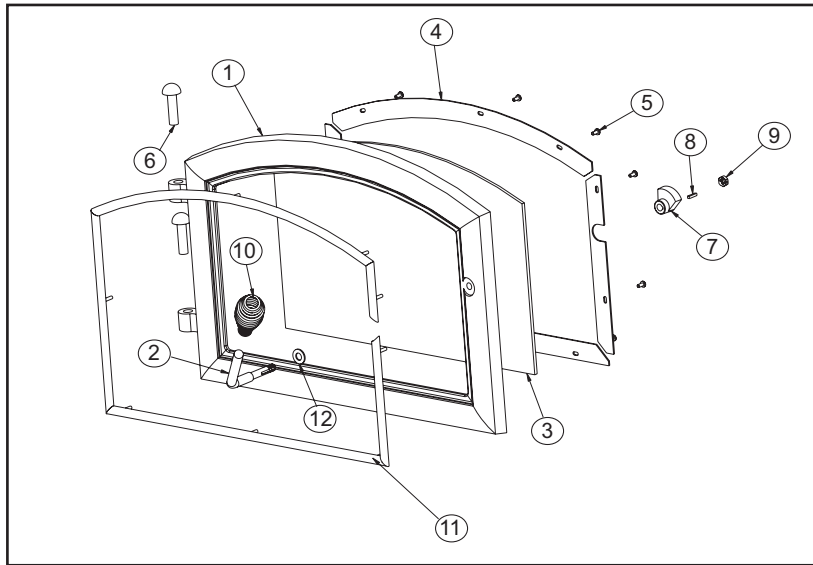

**FIGURE 25B - Allen wrench on retainer bolt.**
2. With a 3/16" allen wrench, remove the 2 front secondary combustion tube retainer bolts on the secondary air channel under the end of the front tubes. See Figure 25B. NOTE: Soak the bolts with penetrating oil for at least 15 minutes before trying to remove them.